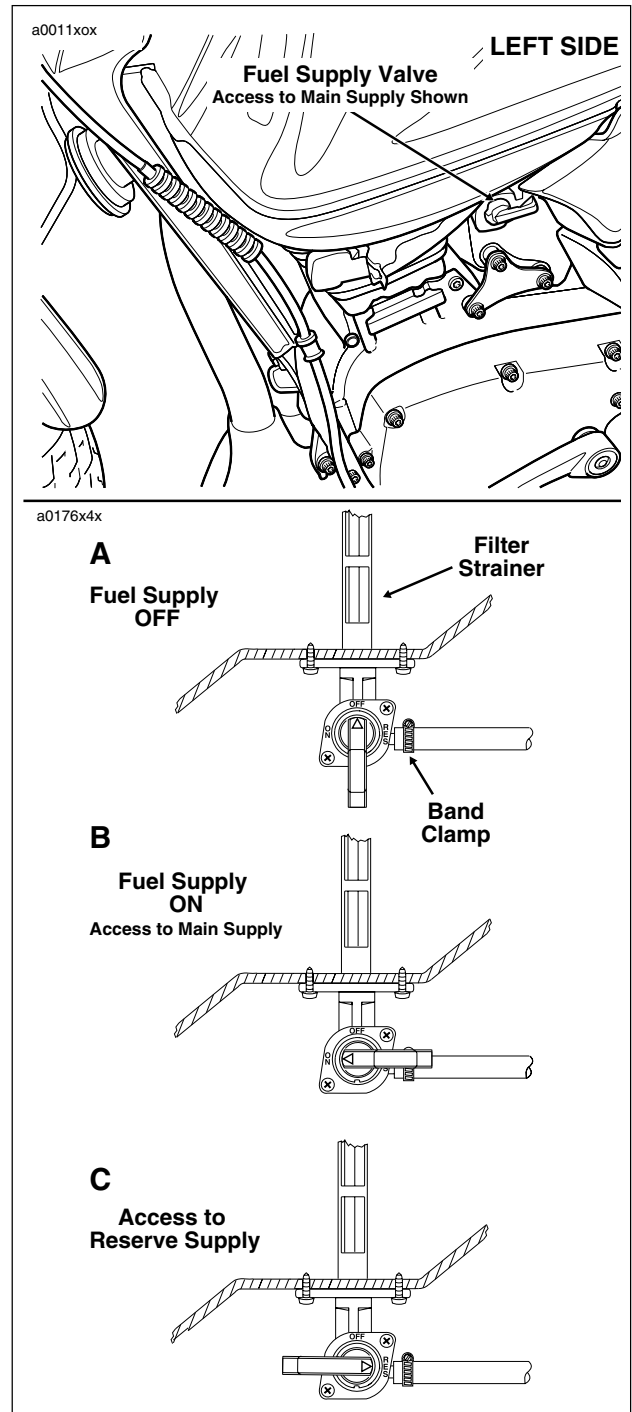

Figure 1-44. Fuel Supply Valve
- a. Rotate handle on the fuel supply valve to the fully vertical position to shut the gasoline supply to the carburetor OFF. See A of Figure 1-44.
- d. Rotate handle of fuel supply valve to RES(ERVE) to start the flow of fuel. See C of Figure 1-44.